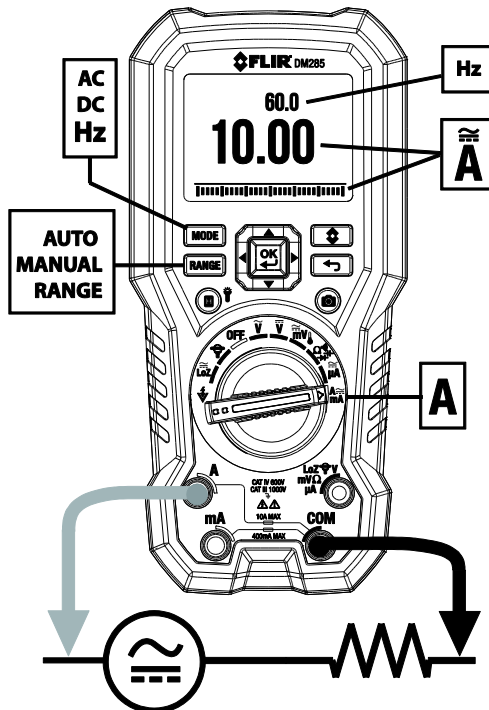

Fig. 9-9 High Current 'A' Measurements
4. Connect the probe leads in series with the part in accordance with **Fig. 9-8** and **Fig. 9-9** for 'A' measurements, **Fig. 9-10** for mA measurements, or **Fig. 9-11** for μA measurements.